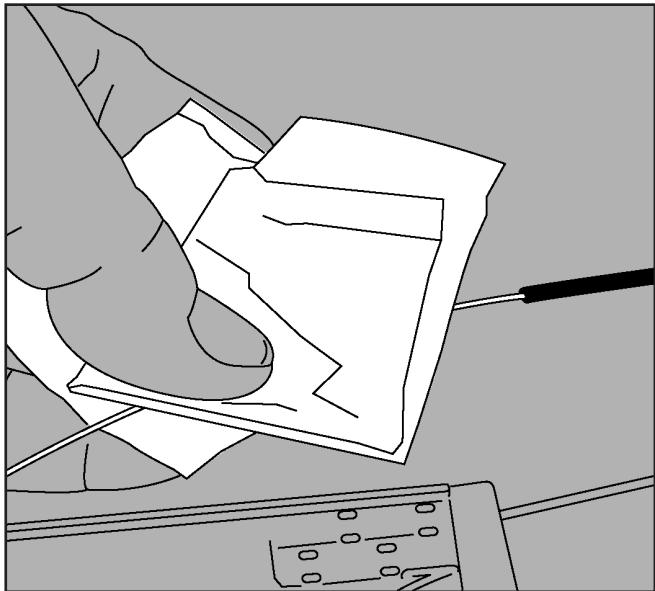

Figure 7
7. With the cleaning wipe provided, carefully remove the grease and clean the exposed fibers. (Figure 7)